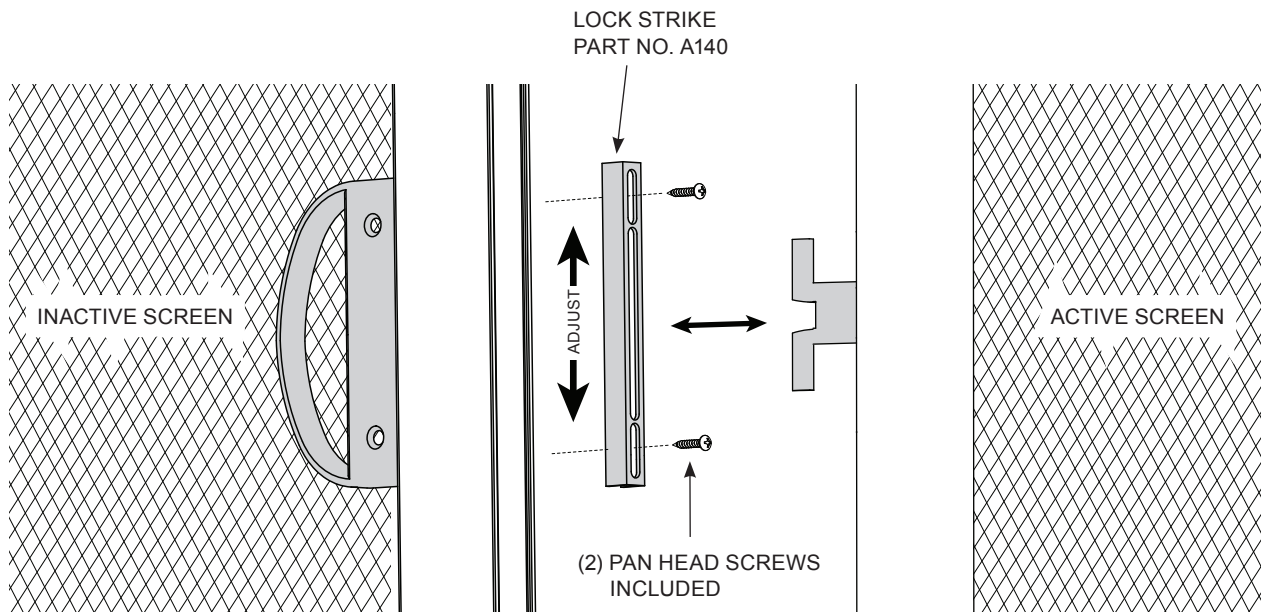

FIG. 47
3. Install OXXO screen lock strike on the inactive panel. Position so screen catch moves freely. (FIG. 47)